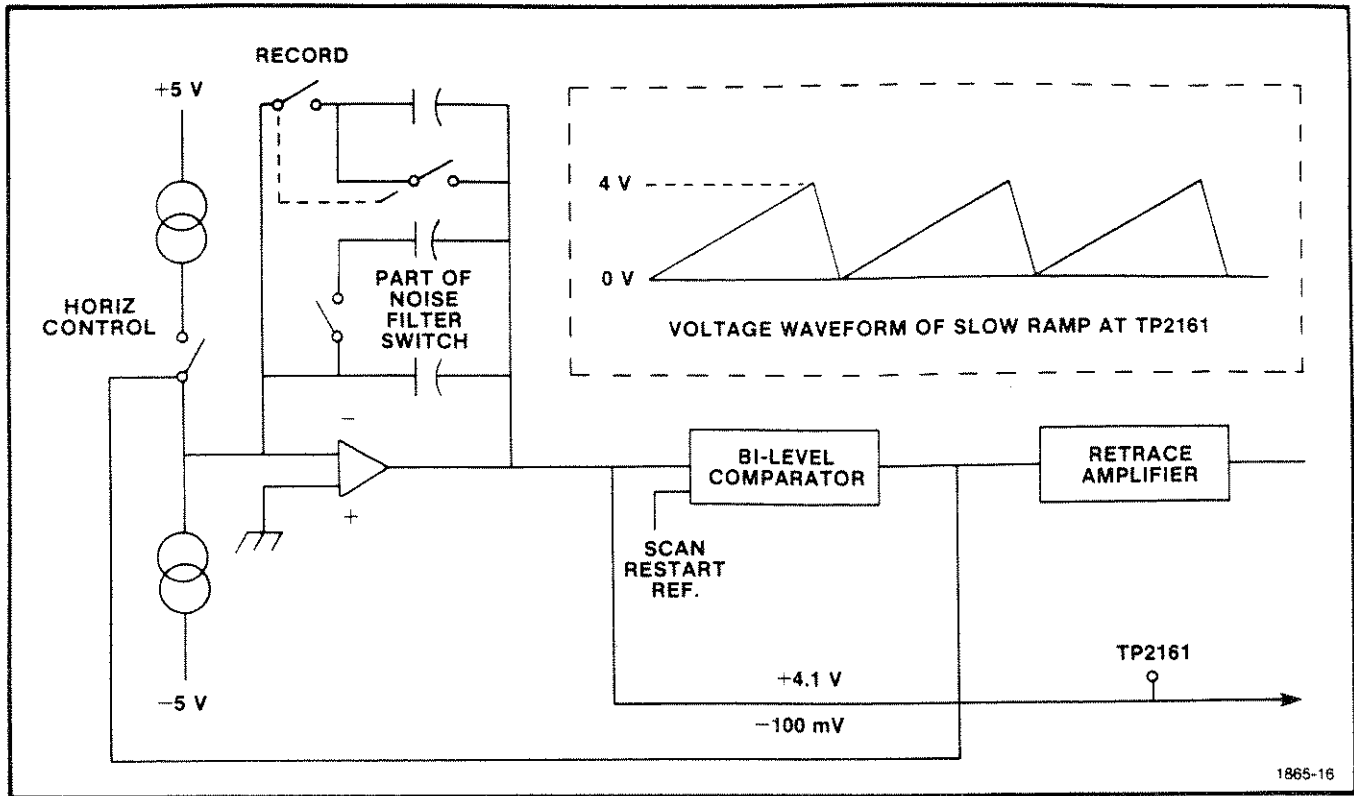

Fig. 3-5. Functional block diagram of the Slow Ramp Generator.
**Integrator.** An inverting amplifier circuit with a FET input is used as an integrator. Integrator capacitor C2356 is connected between the collector of Q2345 and the inverting input (gate of Q2246A). A negative current applied to the inverting input through R2353 results in a linear rising voltage at the output (see the waveform shown in Fig. 3-5). This output voltage will continue to rise until it reaches an internal comparison level of 4.1 V. The bi-level comparator output then switches to a higher output level to close the FET switch, Q2257. It also changes its comparison level to  $-0.1$  V. This allows a positive current to be applied to the input of the integrator through R2251. The positive current is  $\approx 13$  times larger than the negative current and causes the output voltage of the integrator to decrease linearly. After a short period of time, the integrator output voltage approaches this comparison voltage of  $-0.1$  V and causes the positive current into the integrator to be turned off. At this time the comparator level is switched back to the 4.1 V level and the cycle starts over.